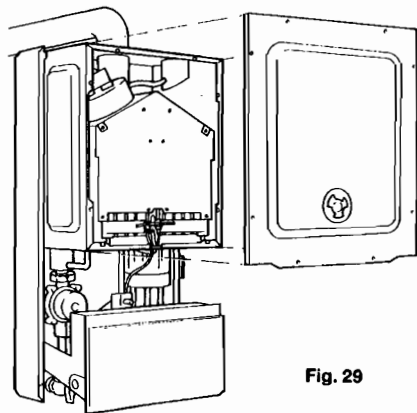

Fig. 29
Refer to fig 29
8.5.2 Remove roomsealed front cover plate by releasing eight screws (fig. 29) and easing cover off. The screws are not captive. Inspect gasket for damage. If damaged, replace.